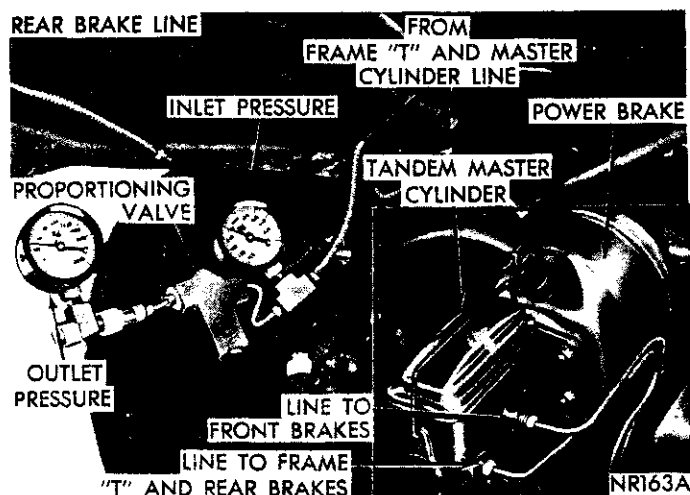

Fig. 22—Checking Proportioning Valve
- (1) Install one of Gauge Set C-4007 and "T" in brake line between master cylinder and proportioning valve and remaining Gauge and "T" at output end of proportioning valve and brake line. (Fig. 22). **Be sure all joints are fluid tight.**
- (2) Have a helper exert pressure on brake pedal (holding pressure). Obtain a reading on master cylinder output of approximately 500 p.s.i.
- (3) While pressure is being held as above, reading on valve outlet Gauge should be 360-405 p.s.i.